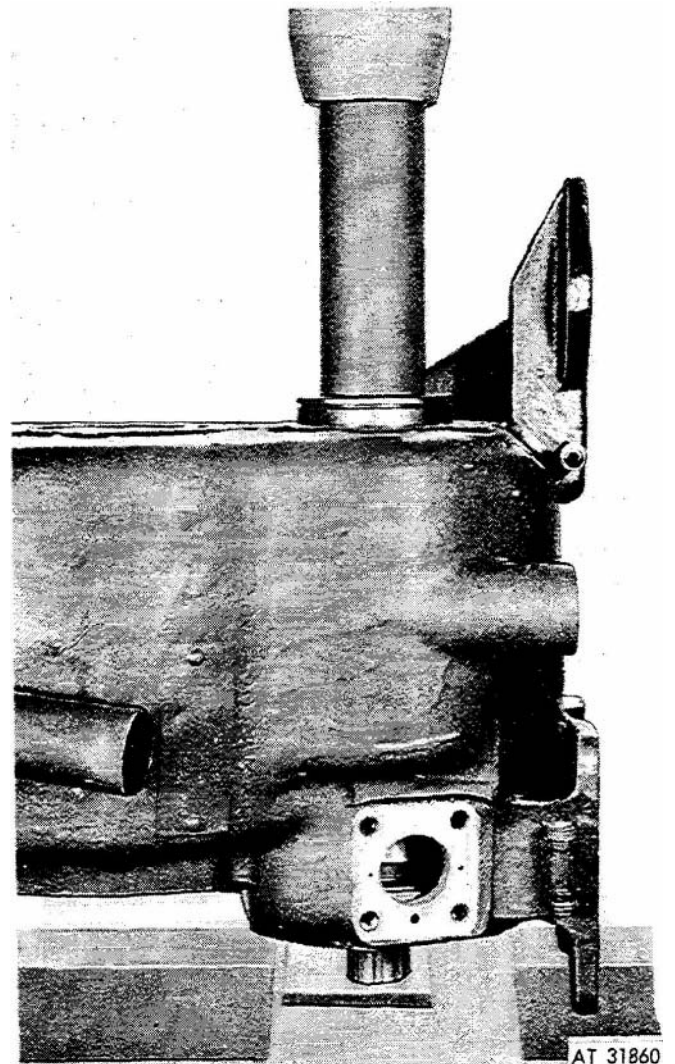

Figure 3-64. Pressing input shaft and bearing in transfer case.
i3) Positon low speed and input gears (22 and 24, fig 3-47) and washers (23 and 26) into transfer case and press input shaft (21) and bearing (27) in place (fig 3-64).